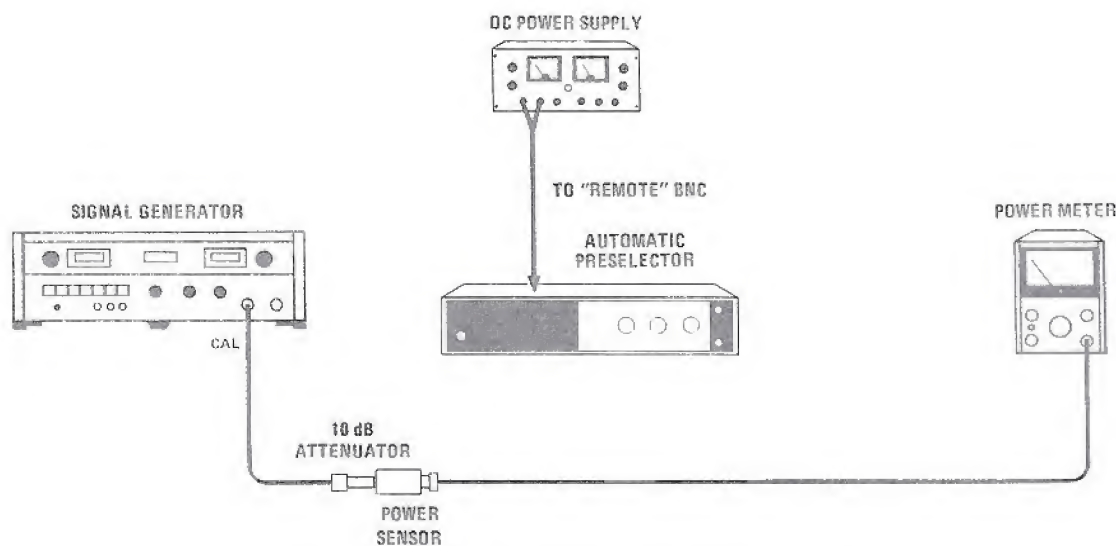

Figure 4-4. YIG Filter Signal Compression Test Setup
1. Connect test setup as indicated in Figure 4-4 and set the controls as follows: